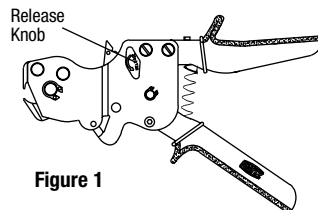
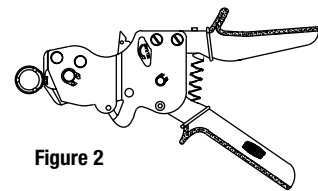

Figure 1
Figure 2
- 4) Open the QCRTQCRM tool by turning the Release Knob counterclockwise (Figure 1). Place the jaws completely over the QickClamp pinch ear. With the tool at a 90° angle to the tube (Figure 2), close the tool by squeezing the handles together repeatedly until the LED light comes on. This may take 6-8 squeezes (Figure 3). **Important! Be sure the tool jaws cover the entire ear of the QickClamp before crimping. Failure to do so will result in an improper crimp and may avoid the warranty.**